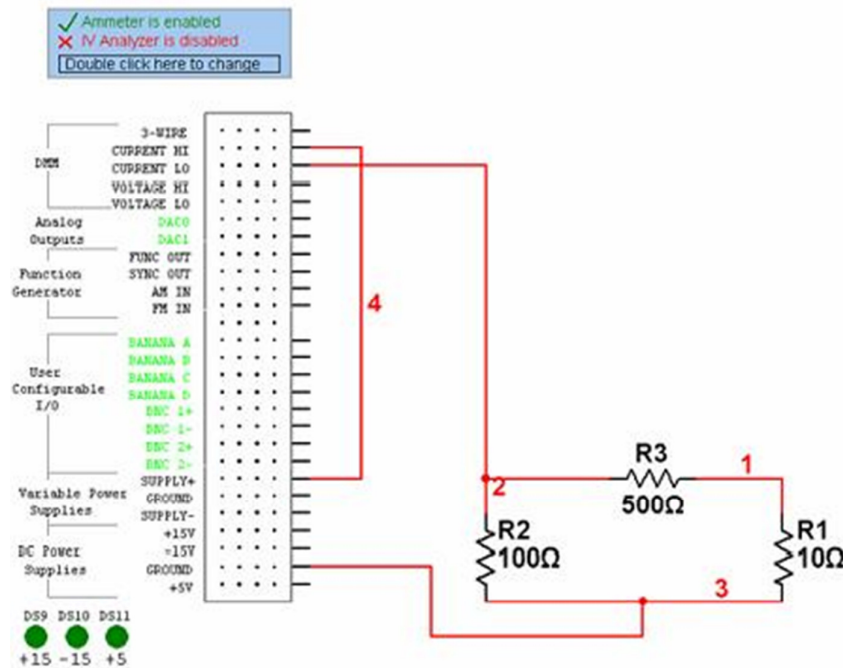

Figure 9
- Construct the circuit as shown in Figure 9.
- Complete the table below figure 9.